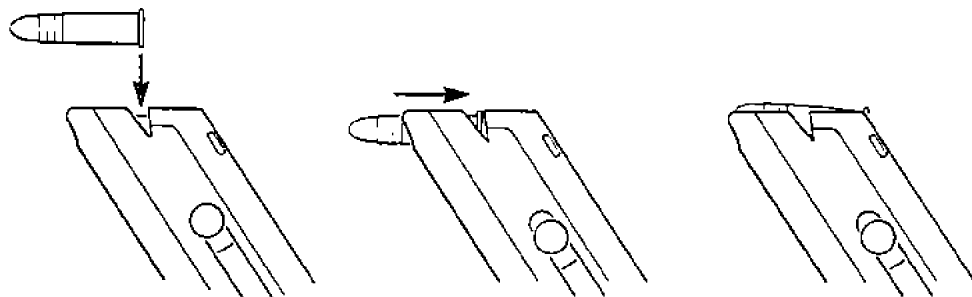

FIGURE 5. LOADING MAGAZINE
3. With open end uppermost, grasp magazine in one hand. Place a round on magazine follower with base just forward of retaining lips (see Figure 5). Press round down and back until base of round touches rear flat edge of magazine. Place next round on top of previous round and press down and back. Repeat until magazine is loaded, but do **NOT** exceed its capacity of 10 rounds. You can also pull down the magazine stud to make loading easier.